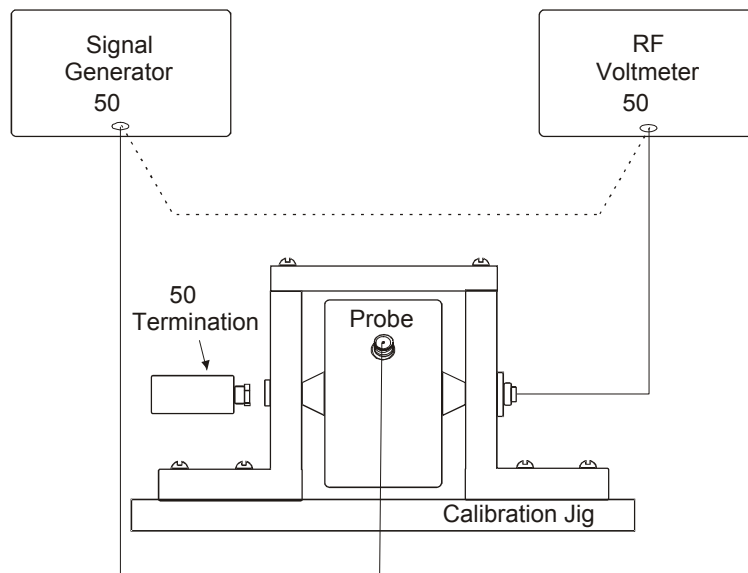

Figure 3—Typical Reference Calibration Setup
1. Connect the signal generator output directly to the RF voltmeter input as show in Figure 3, indicated by the dashed line, using the same cables which connected the calibration jig and the injection probe under test. Tune to the test frequency and adjust the signal level for a reference of 0 dBm indication on the RF voltmeter.